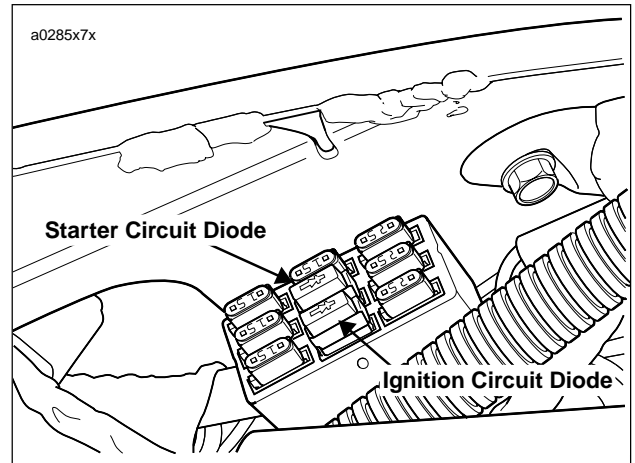

Figure 7-42. Diode Location in Fuse Block
7. See Figure 7-42. Both diodes are mounted in the fuse block under the seat.
1. See Figure 7-42. Install the **new** diodes into position on the fuse block by pushing it into the slot.
1. See Figure 7-42. Connect ammeter between negative battery terminal and battery. With this arrangement, you will also pick up any regulator drain.